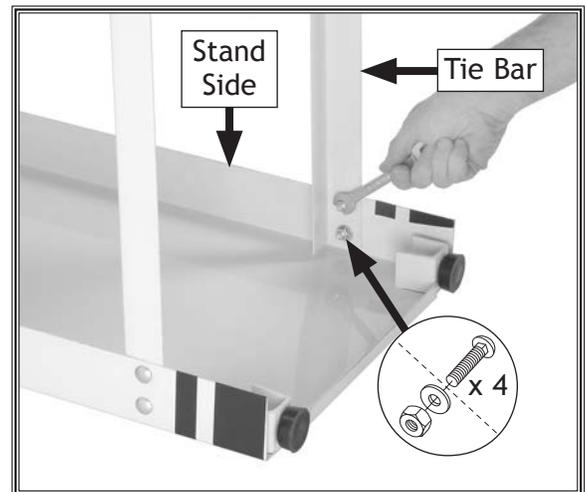

Figure 8. Attaching tie bars to stand side.
1. Lay one stand side panel on ground and attach (2) tie bars with (4) M8-1.25 x 12 carriage bolts, $\frac{3}{8}$ " flat washers, and M8-1.25 hex nuts, as shown in **Figure 8**. DO NOT fully tighten nuts and bolts at this time.